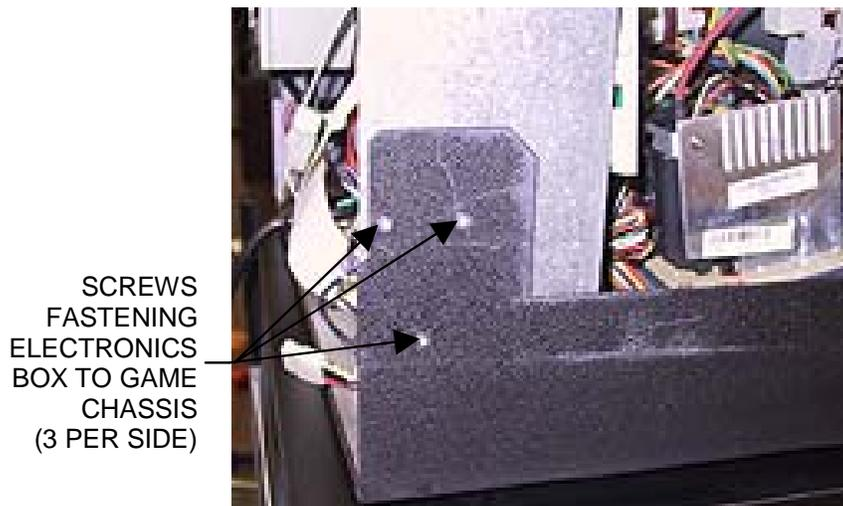

FIGURE 2 - FULL MAXX - CLOSEUP OF SIDE OF GAME
12. Place the electronics box in the game and reconnect all harnesses disconnected in step 5 above, then fasten the electronics box with the 6 screws (3 per side, see Figure 2).